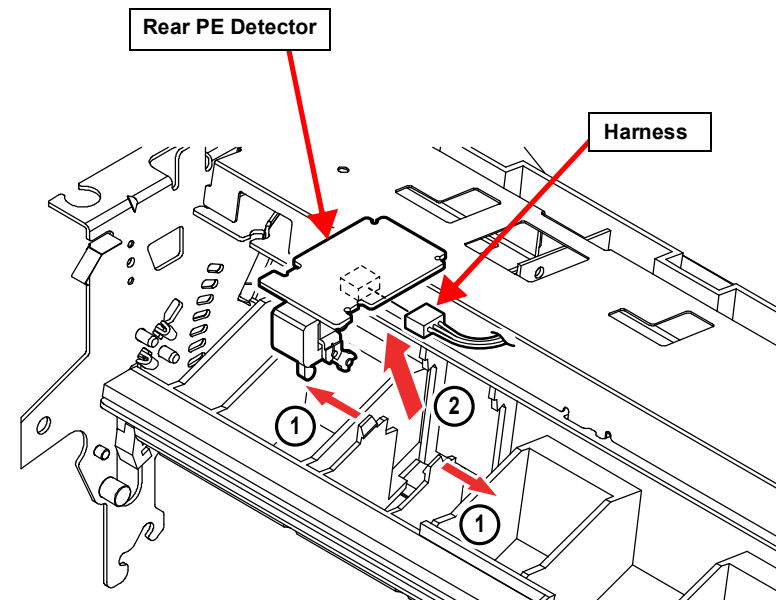

Figure 4-25. Rear PE Detector Removal
4. Release the 2 notches on the Rear Paper Guide Assembly securing the detector, and slide the detector toward rear a little. Then remove the detector by pulling it downward. (See Figure 4-25)